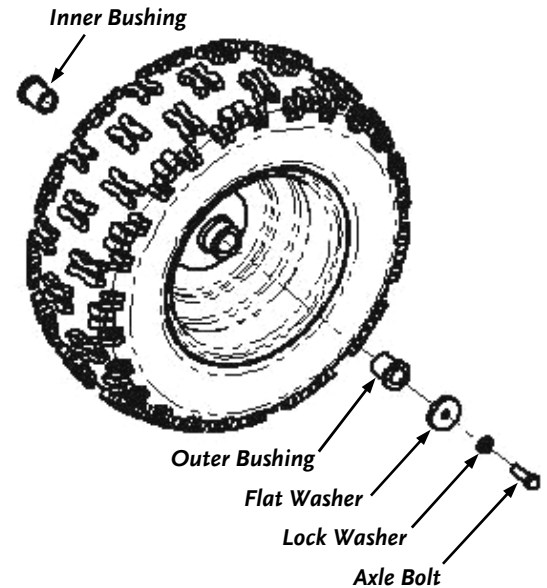

Figure 27
1. With the weight of the machine on the wheel, loosen (counterclockwise) the Axle Bolt (**Figure 27**) with a 9/16" Wrench or Socket.